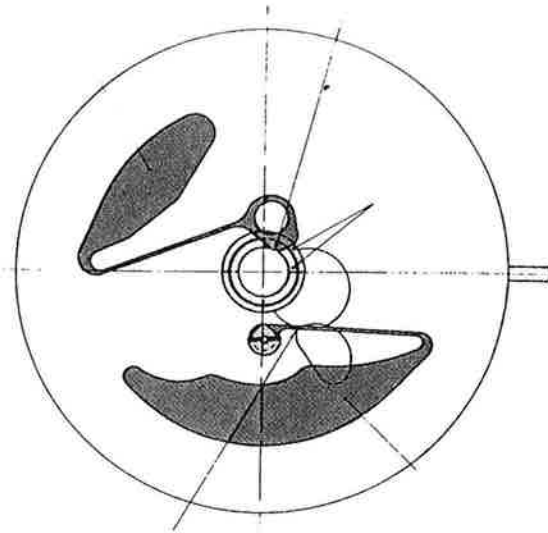

Fig. 22
- The tension of the jumpers should correspond to the diagram Fig. 22.